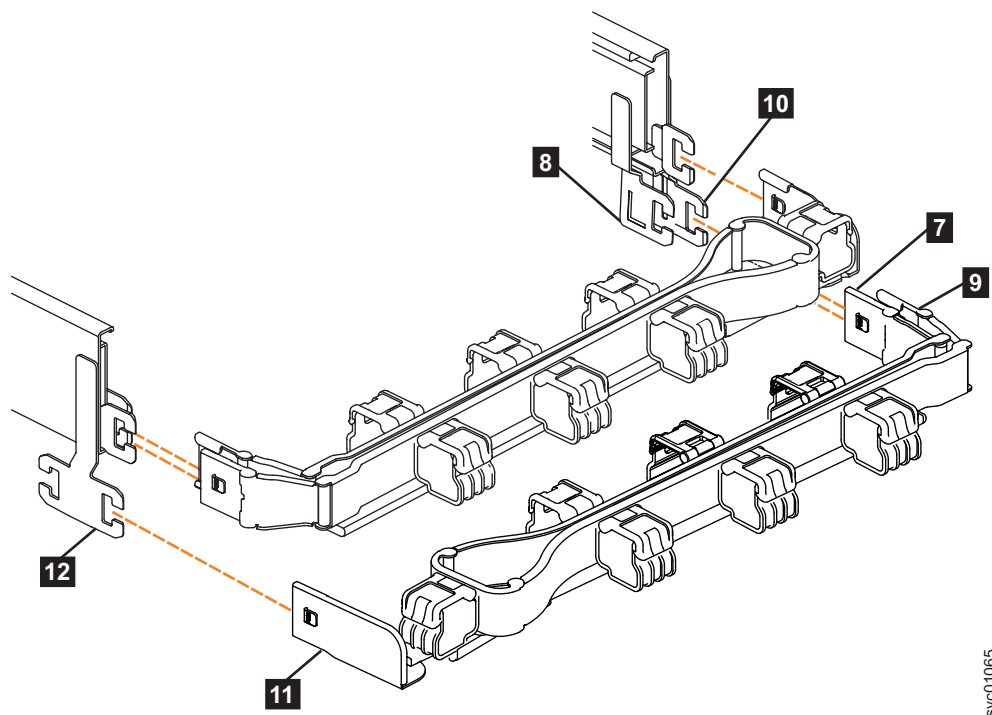

Figure 74. Comparing the location of the components of the CMA assemblies
Note: The procedure for attaching the lower CMA assembly is the same as the procedure to attach the upper CMA assembly. However, the connector locations are reversed. For comparison, Figure 74 on page 79 shows the upper and lower CMA assemblies as they are aligned to the support rails. The support rail connector of the upper CMA attaches to the right rail. The support rail connector of the lower CMA **11** attaches to the left rail.
5. Install the inner connector of the lower CMA assembly (**7**) to the inner member of the right support rail (**8**), as shown in Figure 74).
6. Install the outer connector of the lower CMA assembly (**9**) to the outer member of the right support rail **10** , as shown in Figure 74.
7. Attach the support rail connector on the lower CMA assembly (**11**) to the connector on the left support rail (**12**), as shown in Figure 74. Ensure the lower CMA assembly is securely attached to the hooks on the end of the support rails.